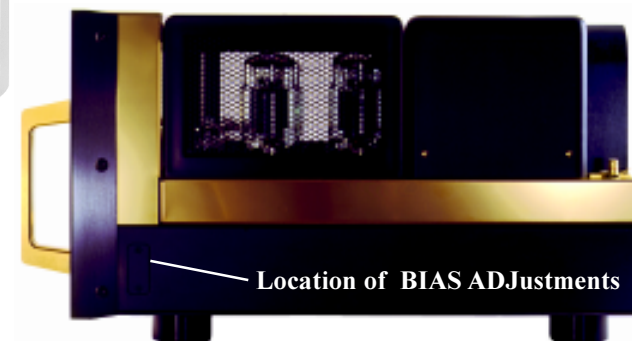

Figure 15
1. Remove the BIAS ADJUSTment Protective Covers on each side of the MC2000. Refer to figure 15.
*Note: Figure 15 shows the location of the BIAS ADJUSTments for the Right Channel, which are located on the right side of the MC2000. The BIAS ADJUSTments for the Left Channel are located on the left side of the MC2000, in the same location.*